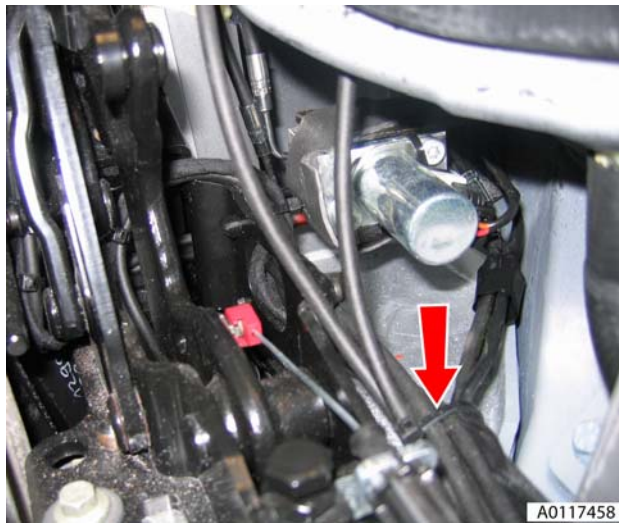

Figure 2
3. Cut cable tie securing valve to bracket (see Figure 2).